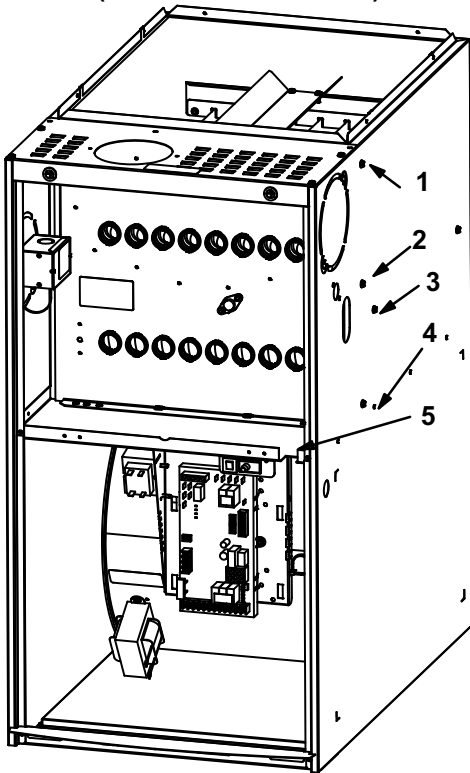

FIGURE 41
- 10- Remove heat exchanger. It may be necessary to spread cabinet side to allow more room. If so, remove five screws from the left side or right side of cabinet. See figure 41.